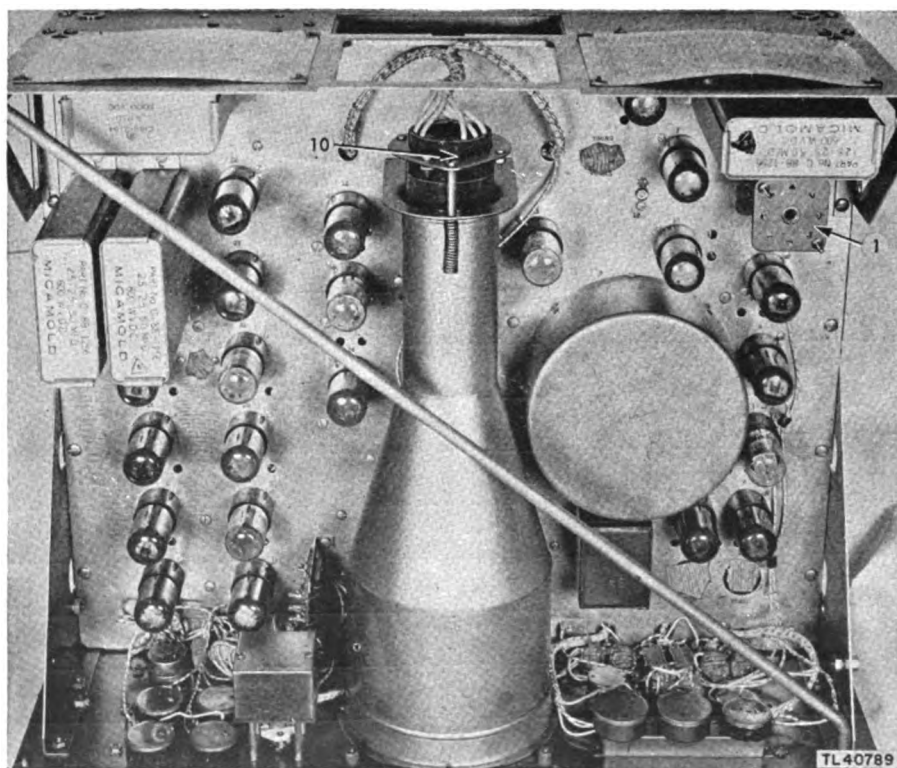

Figure 49. Control Unit BC-1268-A—top view showing masked parts.
(b) Remove the two nuts from the top of the metal can (fig. 49①), which covers timing coil 146, and remove the can.
(2) *Masking* (figs. 49 and 50).